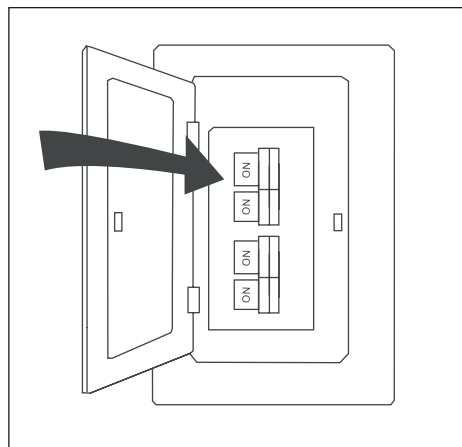

Figure 5.8
8. Turn on power to fan at breaker box and the wall switch. Assembly is complete (Figure 5.8).